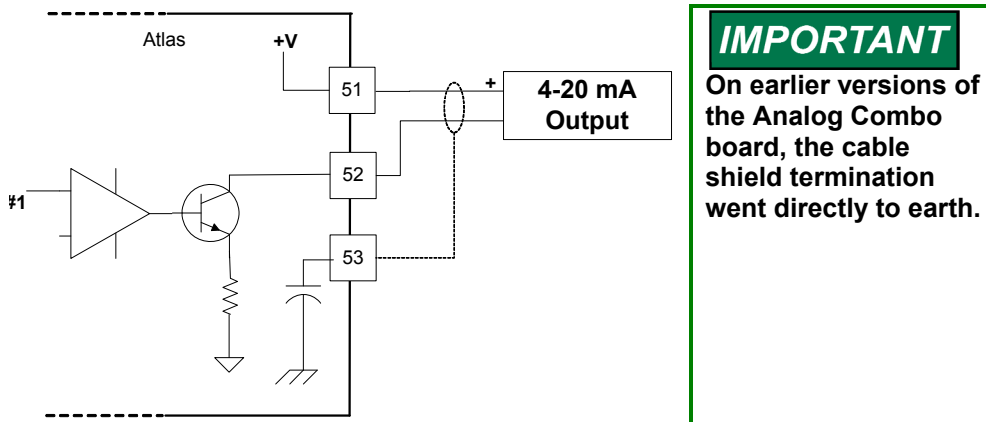

Figure 7-8. Wiring Example—Analog Output Interface (to the Analog Combo Board)
- Refer to Figure 7-8 for analog output wiring.